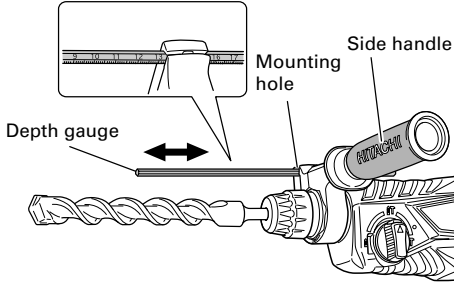

Fig. 14
**7. Using depth gauge (Fig. 14)**